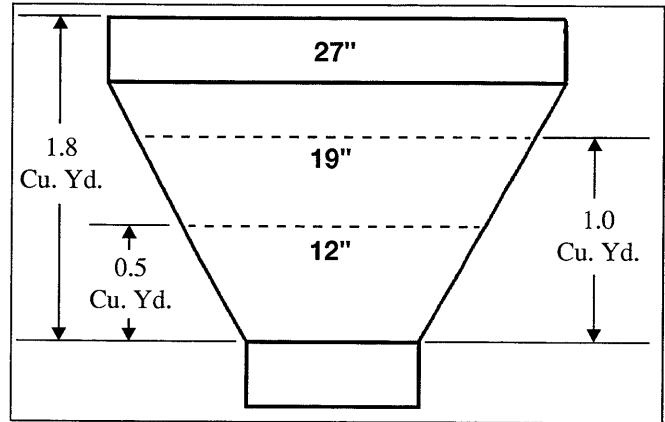

Figure 1
See Figure 1 to determine the correct amount of spreading material for the regular capacity hopper spreader.
7. Compare the maximum volume to Figures 1 or 2 on page 4 to determine the maximum height of the material in the hopper spreader.